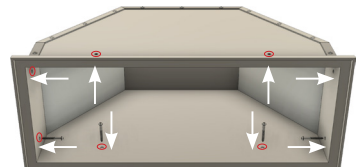

Figure 4
- Insert and tighten all screws into the pre-drilled holes on the Hood body until it is securely mounted to the wood hood. **(Figure 4)**